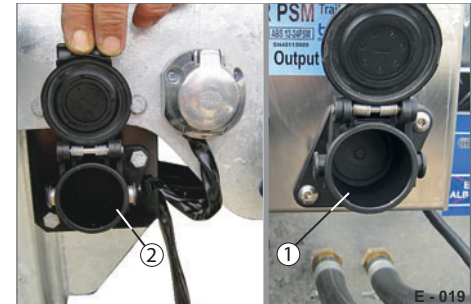

Fig. 14 Parking socket open
- Insert the ABS plug (Fig. 11/1) of the voltage transformer into the parking socket (Fig. 14/1).
- Insert the electric plug (Fig. 11/6) of the voltage transformer into the parking socket (Fig. 14/2).